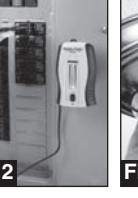

Fig. 2
3. Go to breaker panel and locate the circuit using the receiver (Fig. 2) as discussed in the previous "Operation" section.
3. Go to the breaker panel and locate the circuit using the receiver (Fig. 2) as discussed in the previous "Operation" section.